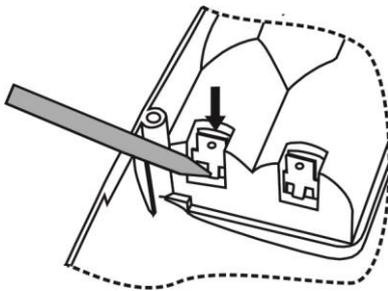

Fig. 19
- Desolder the wires from the battery contacts and press the battery contacts out of the housing as shown in Fig. 19.